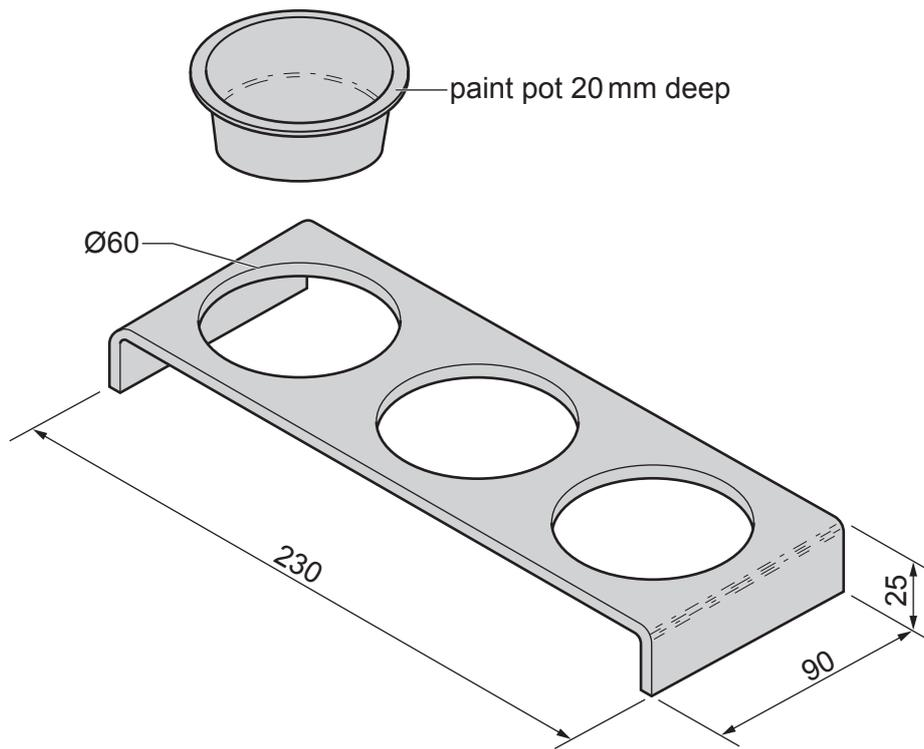

Fig. 13.1
- 13 Fig. 13.1 shows a paint palette made of 3 mm thick acrylic. The paint palette has been designed using CAD and will be made by hand in a school workshop.